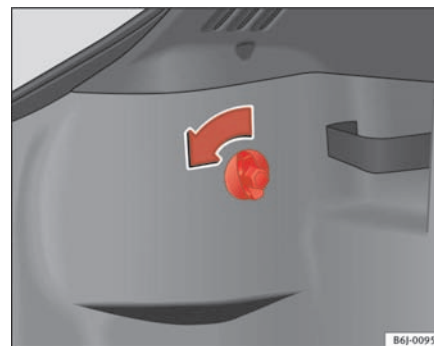

Fig. 141 Access to rear lights
- Turn the bolt in the direction of the arrow, by hand or with the a screwdriver ⇒ fig. 141.